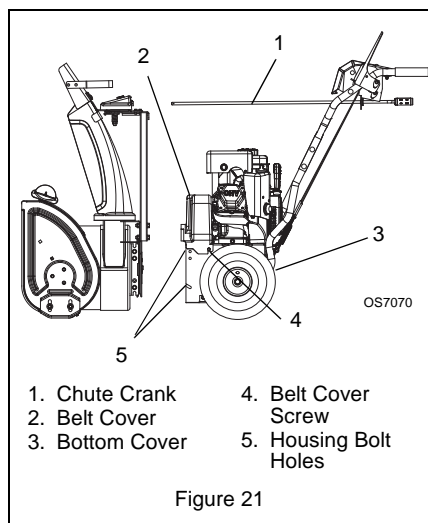

Figure 21
(Figure 21)
**NOTE:** Housing and frame must be tipped apart and attachment drive belt removed from engine sheave in order to change traction drive belt (Figures 21 and 22).